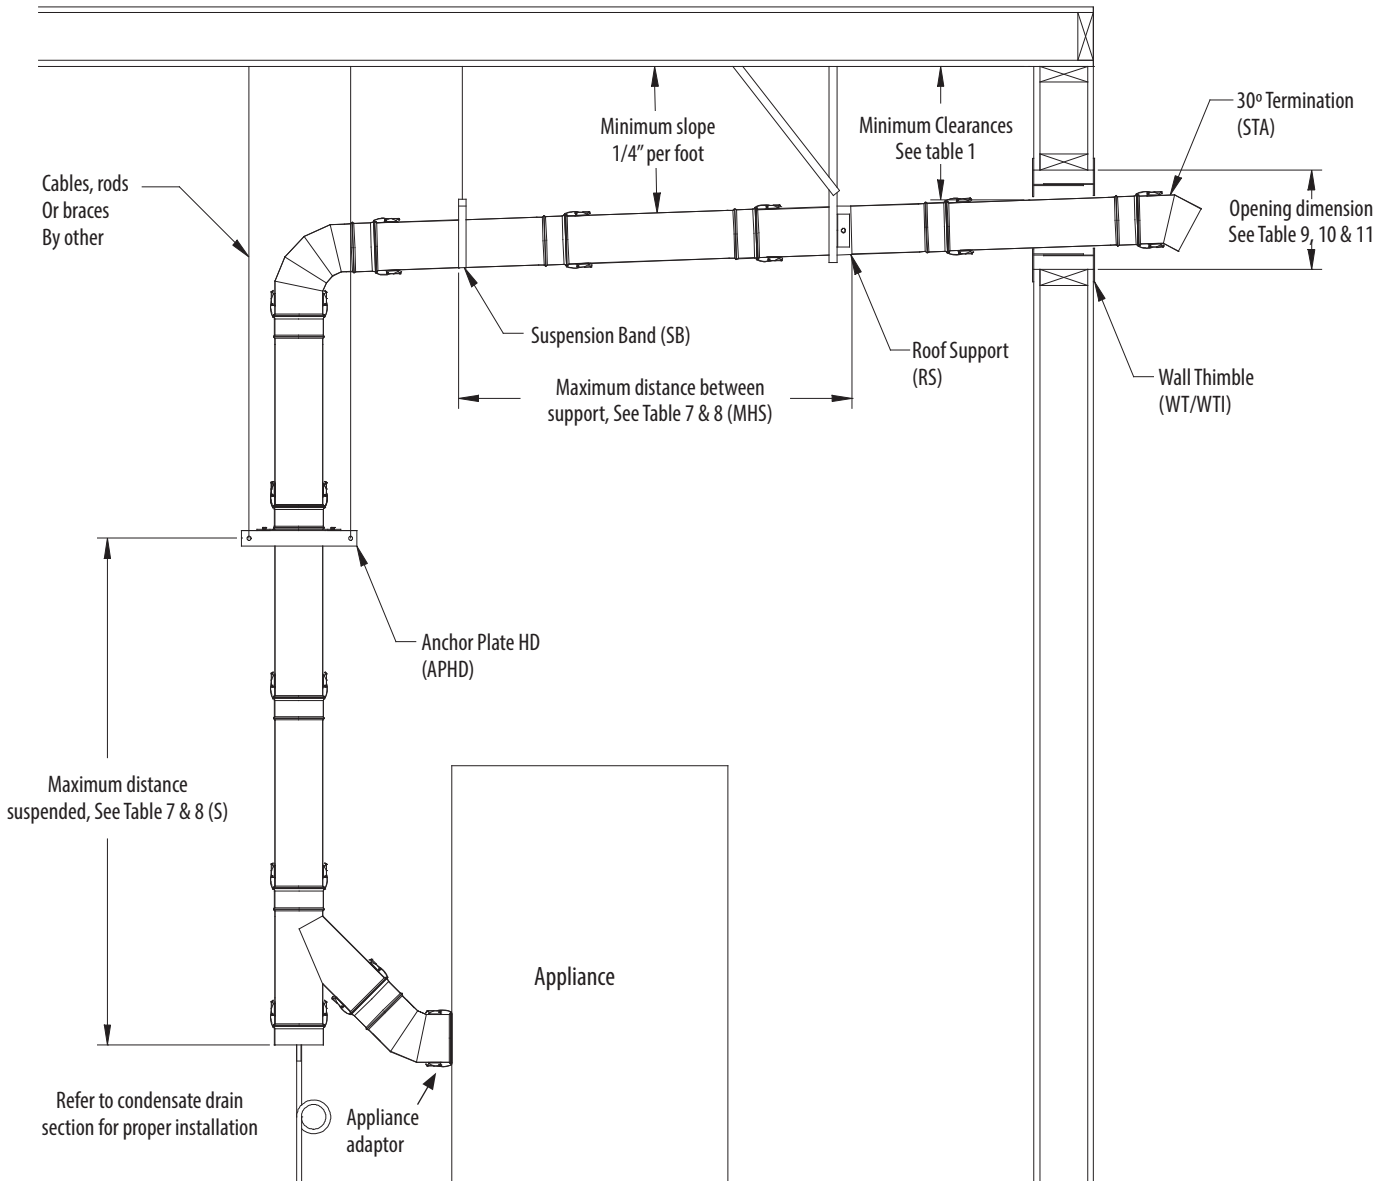

Figure 5- Horizontal
- Remember, if you raise the appliance or lower the ceiling you must adjust the slope of the vent to maintain the 1/4" per foot minimum. See Figure 5 & 26.